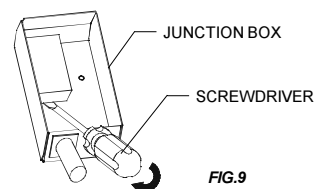

FIG.9
1. Remove the junction box cover and disconnect all wiring connected to the transformer. (Fig.9)
2. The transformer is held by double sided tape, rotate with screwdriver under the transformer to loosen it. (Fig.9)